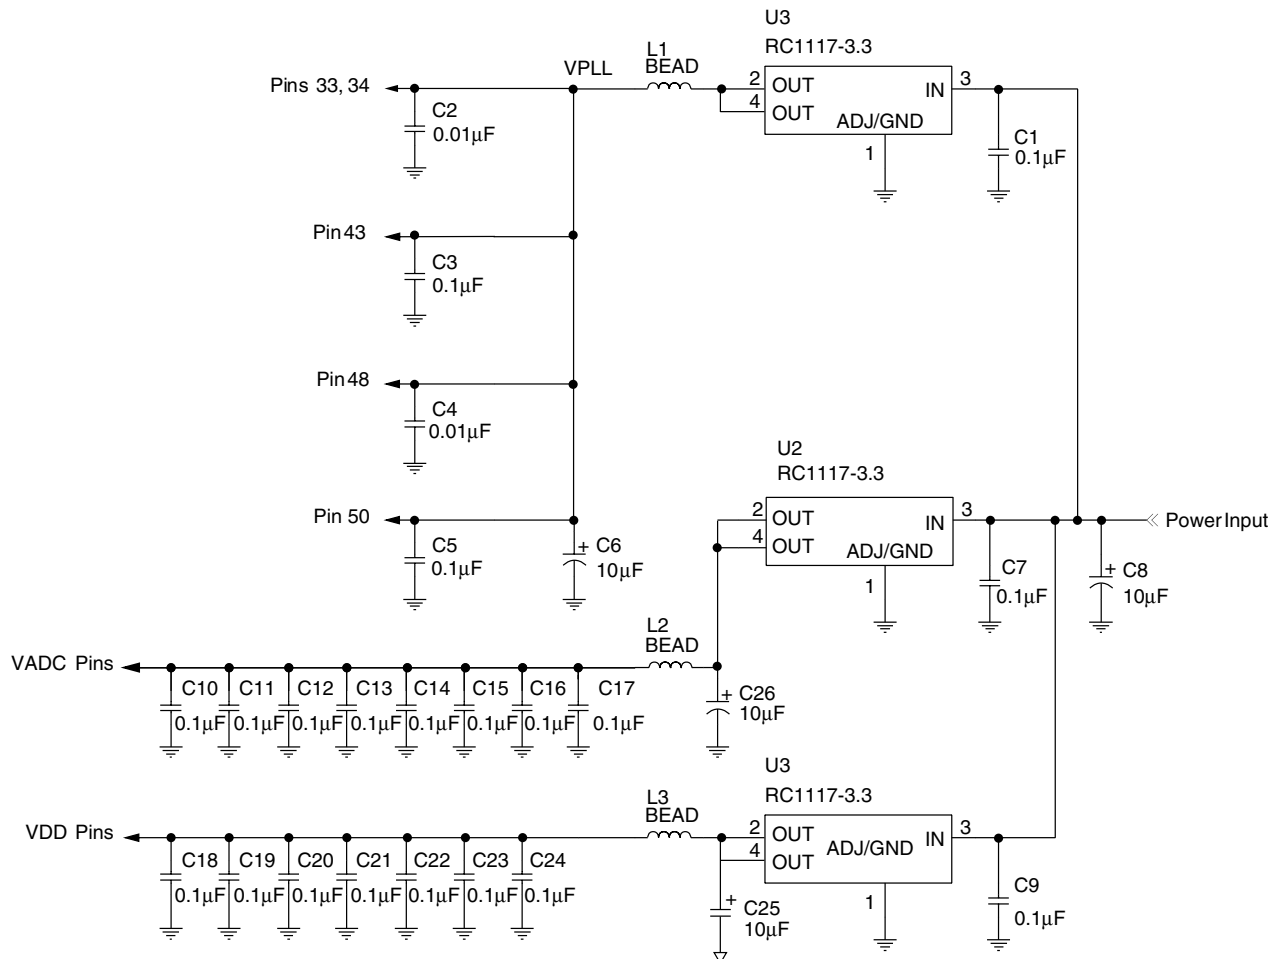

Figure 31. Recommended Power Distribution
A schematic of the recommended power distribution is shown in Figure 31. Note that:
3. Each V_{DDP}/GND pin pair: 33&34/35, 43/42, 48/47, and 50/49 should be decoupled with a 100–1000p/10 μ F pair of capacitors (see Figure 31). If board space is limited, use as many capacitor pairs as possible.